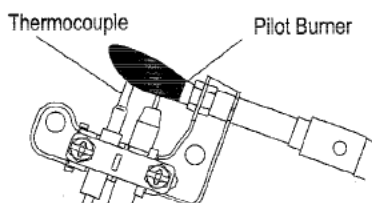
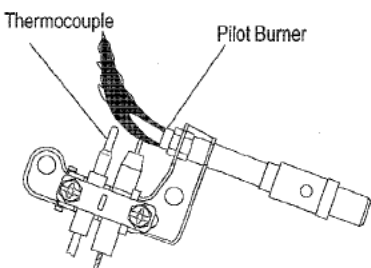
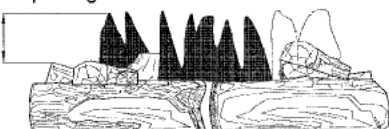
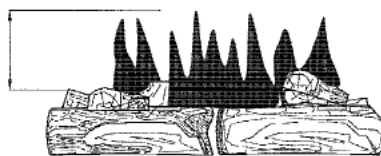

Figure 15 -Correct Pilot Flame Pattern
Figure 16 -Incorrect Pilot Flame Pattern
Figure 17 -Correct Flame Pattern with Control Knob Set to High Flame
Figure 18 -Incorrect Flame Pattern with Control Knob Set to High Flame
1. Press the IGN/OFF button.(see figure 15)
Figure 15 shows a correct pilot flame pattern. Figure 16 shows an incorrect pilot flame pattern. The incorrect pilot flame is not touching the thermocouple. This will cause the thermocouple to cool. When the thermocouple cools, the heater will shut down. If pilot flame pattern is incorrect, as shown in Figure 18
Figure 17 shows a correct burner flame pattern. Figure 18 shows an incorrect burner flame pattern. If burner flame is incorrect: